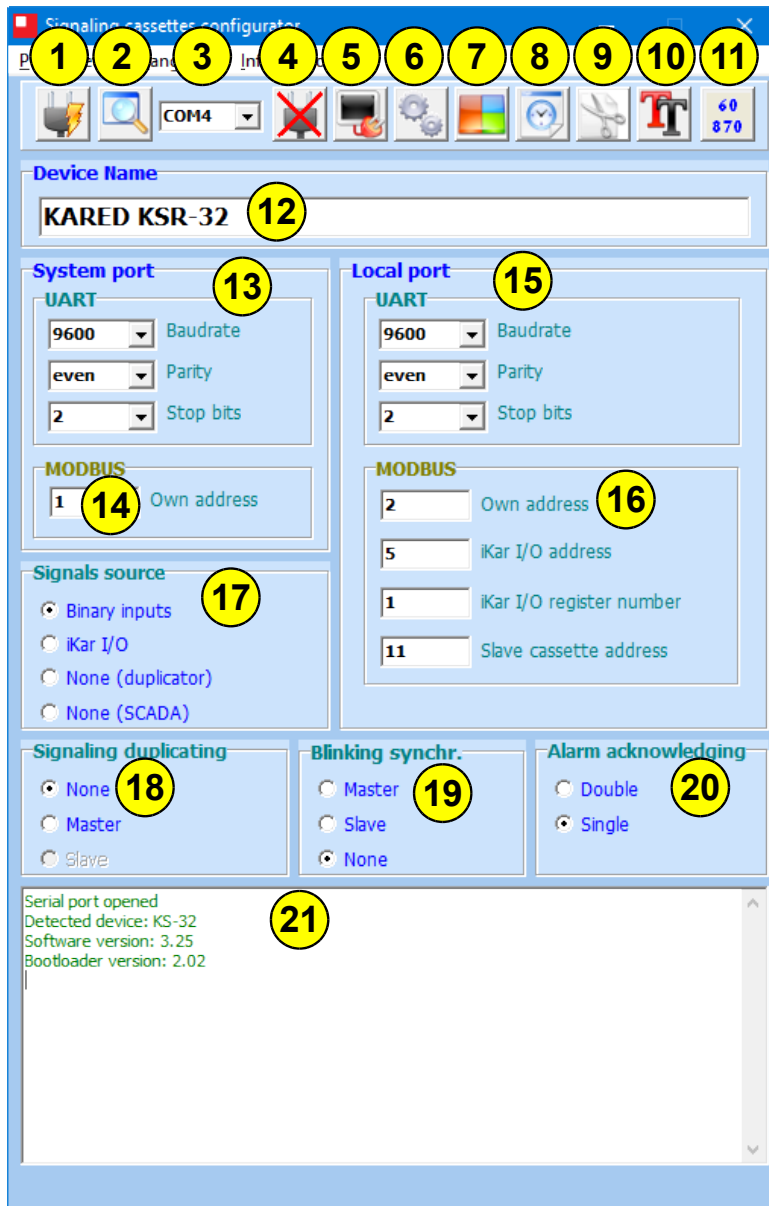
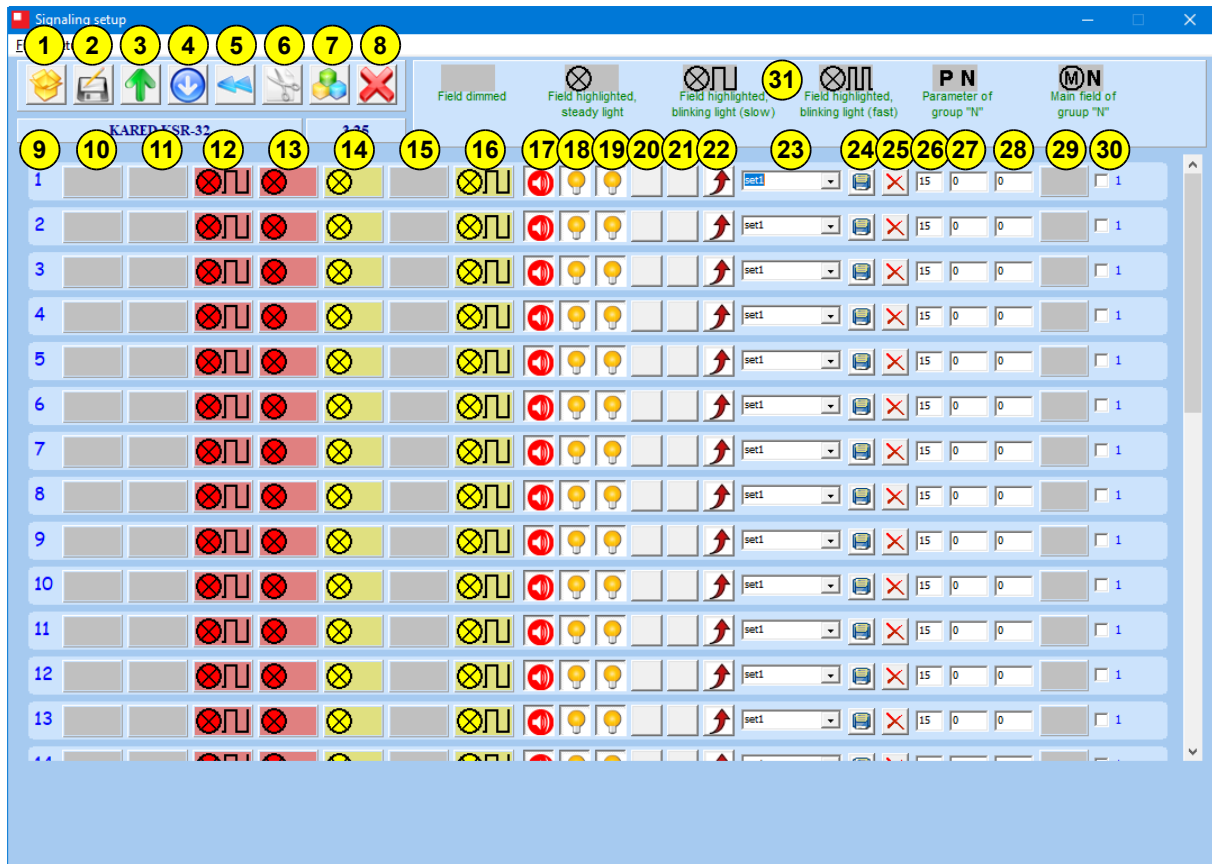

Fig. 1. Main Screen
Fig. 4. Function Configuration Screen
After running the software, a screen should appear as shown in figure 1 (not all icons will be immediately visible).
The aforementioned option of forcing the service mode appears when an attempt to establish communication with the annunciator fails after pressing button (5) in Fig. 1. In order to force the service mode by software, it is necessary to know and enter the parameters of the communication link, the communication protocol used and the device address. To send the demand to enter the service mode, press button (2).
The device function configuration screen is shown in Fig. 4.
4. A window should appear as shown in Fig.1 (not all items will be immediately available).
5. In field (3), select the port to which the signalling cassette has been connected.
6. Use button (1) to open the port. A relevant message should appear in field (21).
7. Use button (4) to connect to the device.
8. Use button (7) to go to the function configuration window (Fig. 4).
10. If necessary, save the configuration to the computer disc with button (2) (Fig. 4).
11. Use button (3) to send the function configuration to the device.
12. The program will return to the main window (Fig. 1).
13. If necessary, clear the event memory of the annunciator with button (9).
Depending on whether a connection to the annunciator has been successfully established, the channel configuration window will look like Fig 4. (on-line) or as in Fig. 7 (off-line). To run the simulation in the off-line mode, select the annunciator version and the software version in field (7) in Fig. 7. Then prepare the configuration for the simulation purpose or download it from the connected cassette.